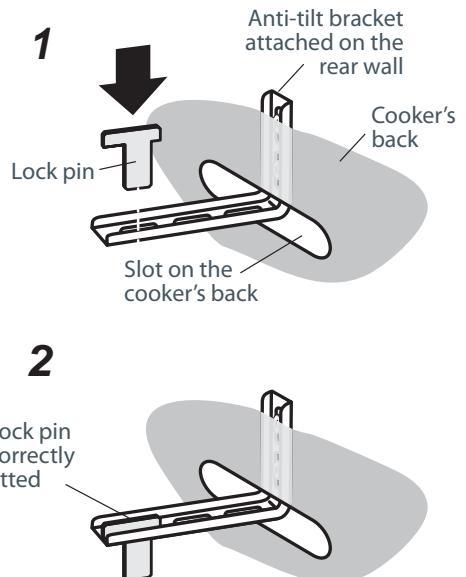

Fig. 10c New Zealand and Australia only: fitting the lock pin through the bracket
- Fit the lock pin through the bracket, as shown (Fig.10c).